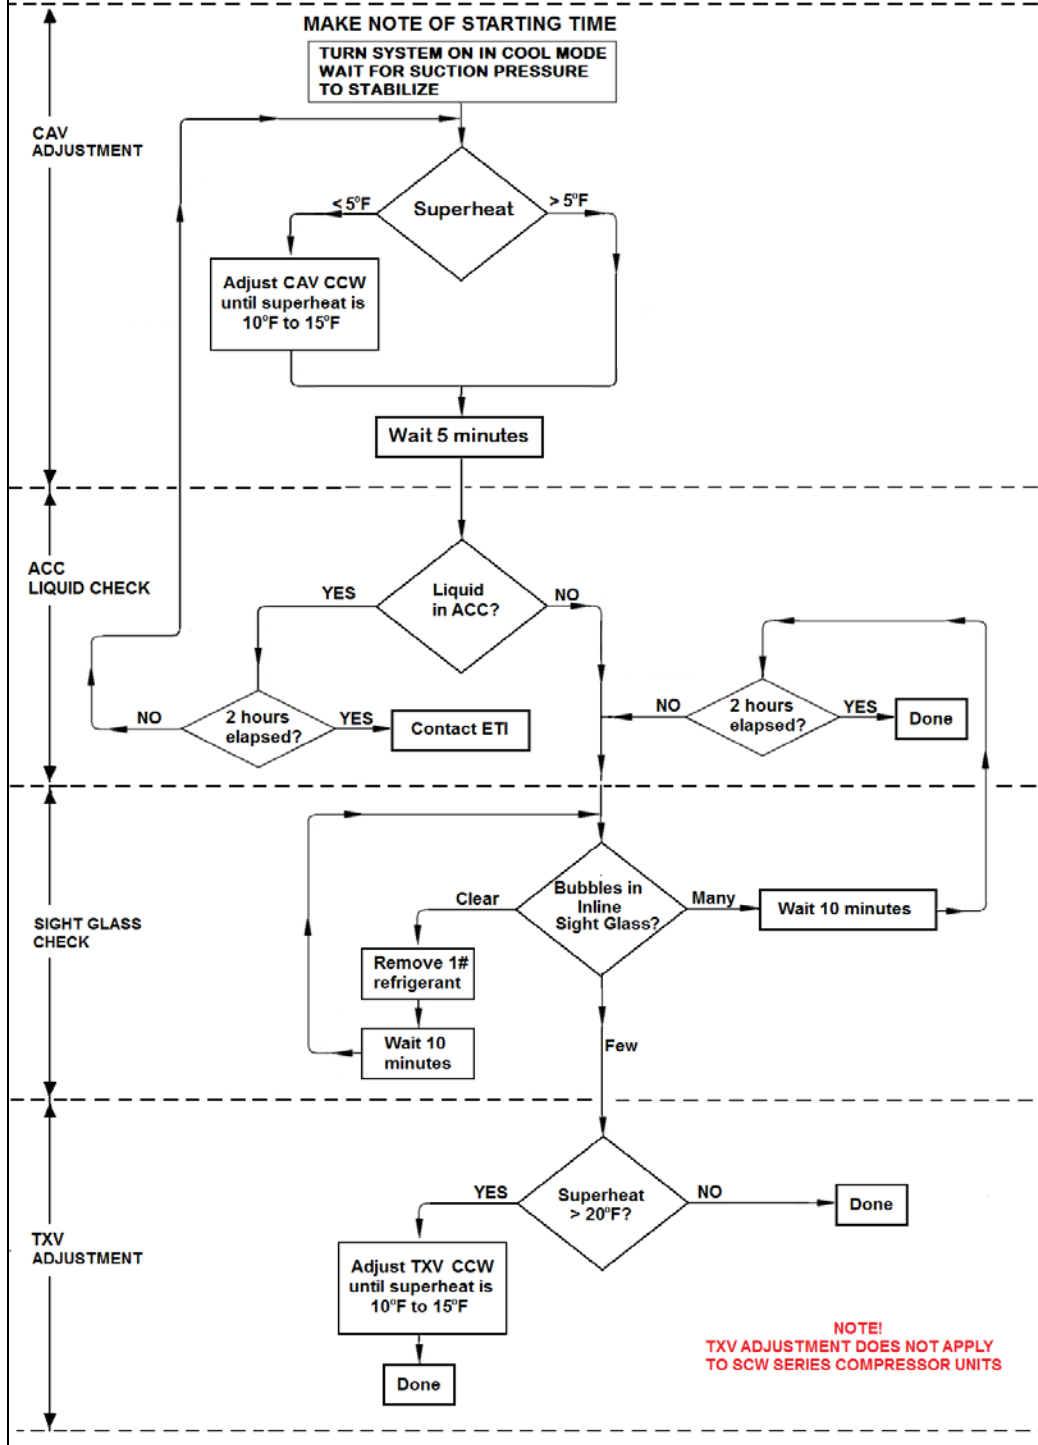

Figure 35. R-407C Cooling Mode Start-Up Process
These following steps are to be followed if the system **is to be run in Heat/Cool or Cool Only**. The process flow chart for these steps is illustrated in Figure 35. Be sure the cooling mode for the system is enabled. Start the system in COOL mode and run system until the suction pressure stabilizes.
10. See Figure 35 and follow the guidelines to bring the superheat into the 10°F to 15°F range. When superheat is adjusted to within this range, the system is fully operational and needs no further adjustment.